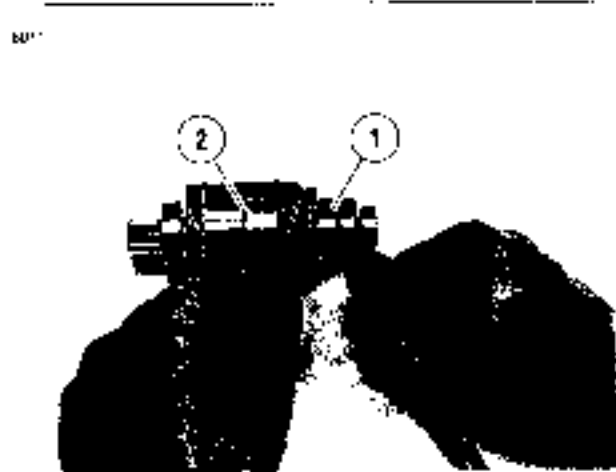
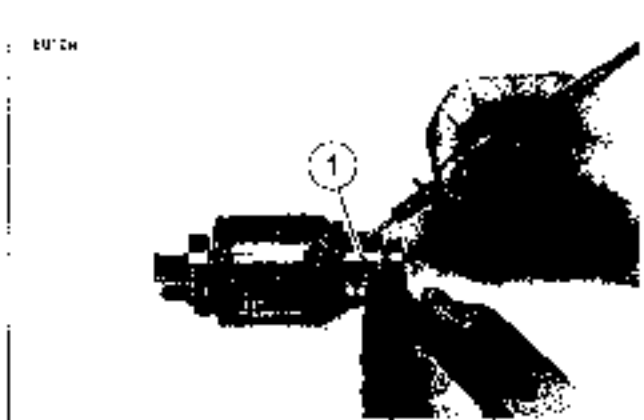

Figure 5-17. Grounded Armature Test
Figure 5-18. Open Armature Test
11. See Figure 5-17. Check for a GROUND ARMATURE with an ohmmeter or continuity tester.
- a. Touch one probe to any commutator segment (1).
- b. Touch the other probe to the armature core (2).
12. See Figure 5-18. Check for OPEN ARMATURE with an ohmmeter or continuity tester.
- a. Check for continuity between all commutator segments (1).